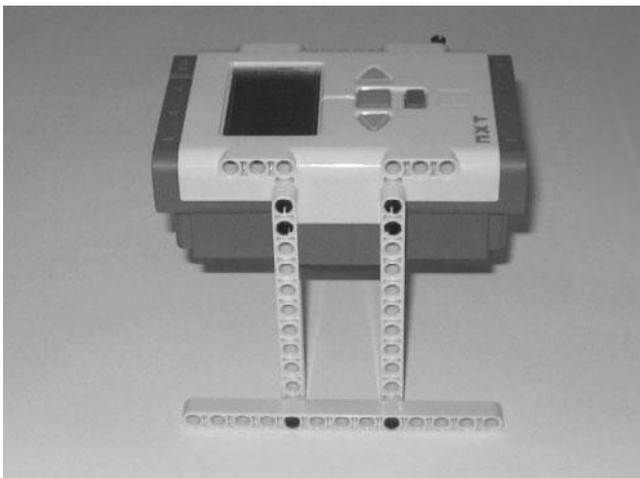

Figure 12.5
Step 5: Connect the lower end of the two 11M straight beams to a 13M straight beam using two more connector pegs with friction, as shown in Figure 12.5.